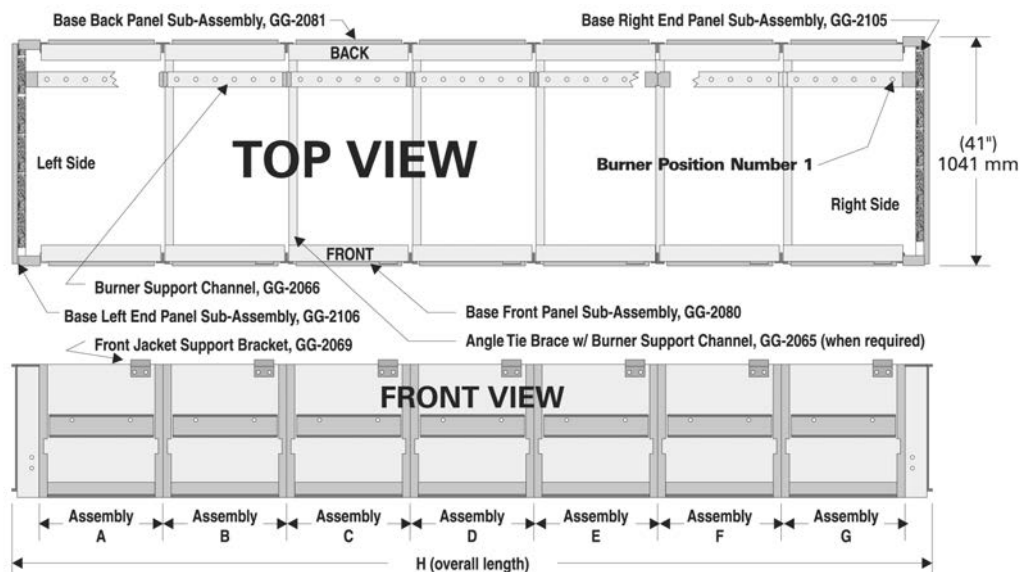

Figure 2.1: Boiler Base Assembly
7. Bolt remaining Front and Back Panels together using 5/16"-18 x 1" (25 mm) long cap screws and hex head nuts. See Table 2.1 for panels required. Place the panels in the positions shown in the table and Figure 2.1.
9. Set the Burner Support Channels in place as shown in Figure 2.1.
Table 2.2: Burner Cartons and Pilot Burner Locations (See Figure 2.1)